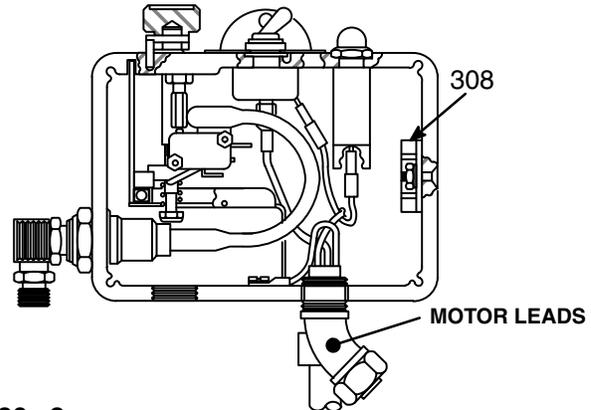

Fig 20-2
Disconnect the + and - leads from the motor to the bridge (308). See Fig 20-2.